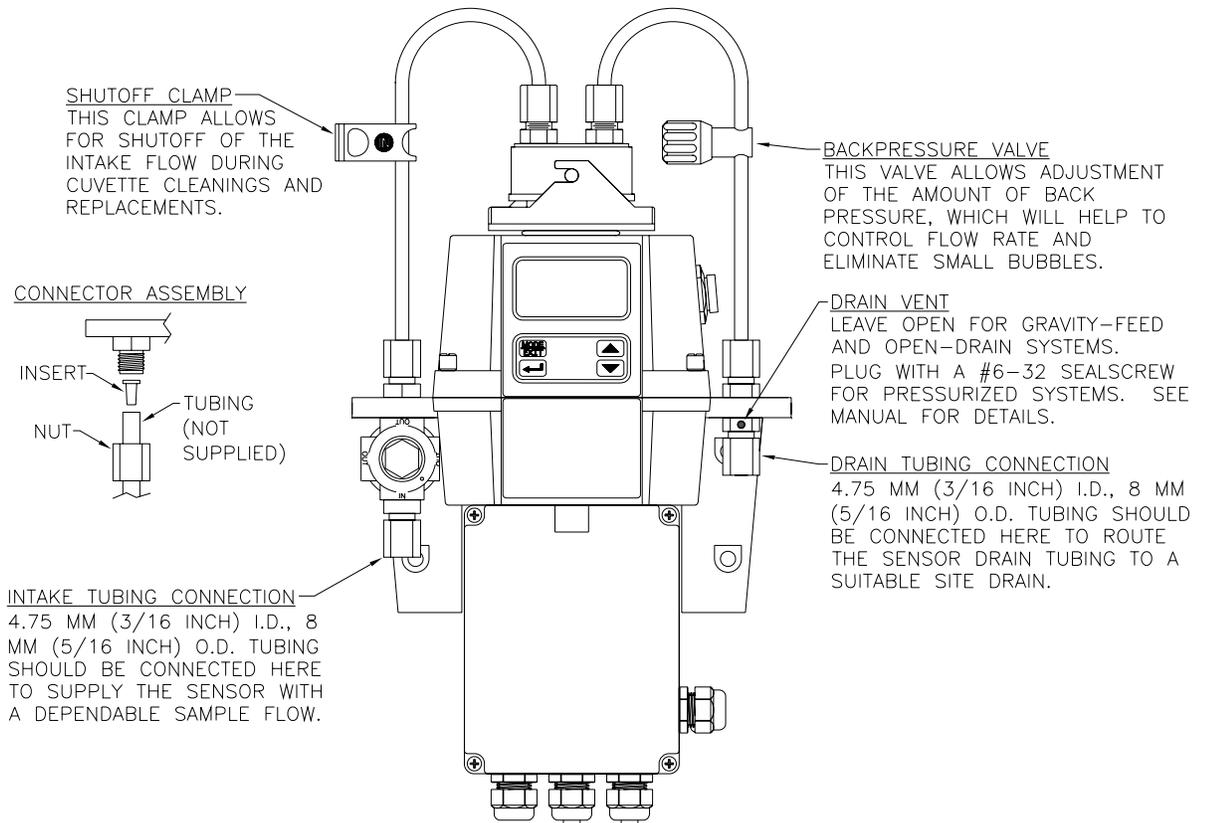

Figure 4: Recommended Plumbing for the Instrument
The recommended plumbing for the instrument is shown in Figure 4. The instrument is designed to require very little head pressure to operate; around 6.9kPa (1 PSI). The flow through cuvette is rated for a flow of 100ml/min. – 1 liter/min. (0.026-0.26Gal/min). The integral pressure regulator is rated for a maximum pressure of 1380 kPa (200 PSI.). The maximum allowable fluid temperature is 50°C (122°F).
In figure 4, there are two flow devices shown. The one on the input side is a shutoff clamp used during cuvette maintenance. The other device is a backpressure valve. Backpressure may be required to prevent air from coming out of solution, which may be observed as tiny air bubbles.
3.2.1 Drain Vent: The TB500 has been fitted with a drain vent in the “OUT” bulkhead fitting. This fitting allows for atmospheric equalization, thus helping to alleviate bubble formation in the cuvette. Refer to Figure 4.